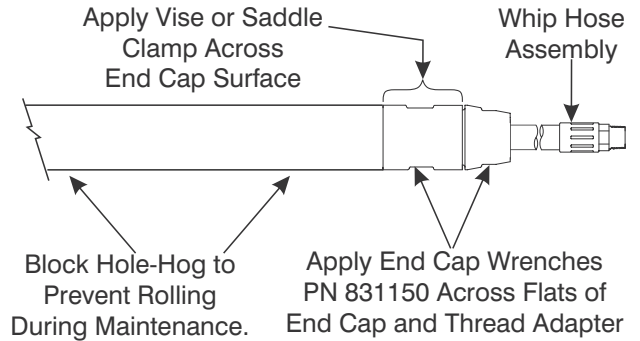
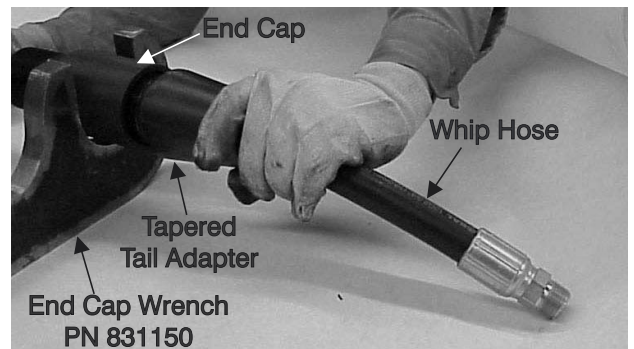

Figure 11-13. Secure Hole-Hog for Tail Adapter Removal
Figure 11-14. Slide Tail Adapter from End Cap, over Whip Hose.
- a. When using the End Cap Wrench, grip the Hole-Hog across the wrench flats of the End Cap (8) as shown in Figure 11-13.
- b. When using a vise or saddle clamp, grip the Hole-Hog across the raised area of the End Cap (8) on either side of the wrench flats as shown in Figure 11-13.
2. With the Hole-Hog secured as described above, fit one of the End Cap Wrenches (P/N 831150) across the flats of the Tapered Tail Adapter (13) as shown in Figure 11-13.
3. With the End Cap Wrench, loosen the Tapered Tail Adapter (13). It may be necessary to strike the wrench handle several times to loosen the adapter.
4. Thread the Tail Adapter (13) from the End Cap (8) and slide it off, over the Whip Hose as shown in Figure 11-14.